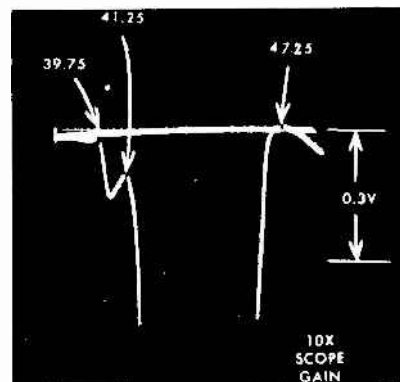

Fig. 6 Expanded View of Traps
6. Refer to Fig. 6 and 7 and adjust the 39.75 Mc 41.25 Mc, and the two 47.25 Mc traps for minimum marker amplitude. (16C20 chassis has one 47.25 Mc trap.) It can be seen that high oscilloscope gain must be used to "run" the response off the screen in order to view a "blow up" of the traps.